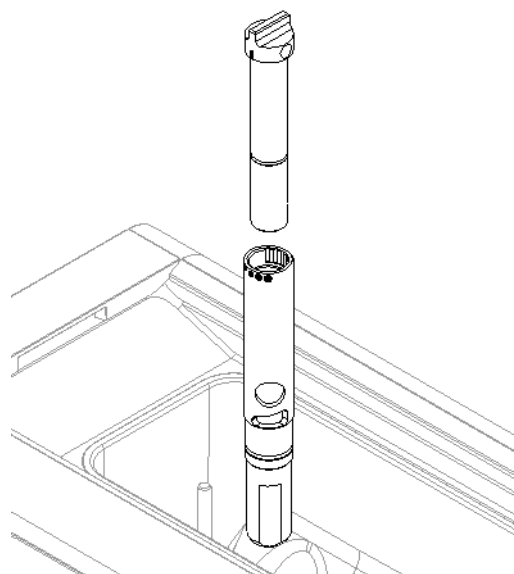

**figure 2**
**If the tap assembly has not been installed, the appliance cannot operate and the display shows the tap assembly open icon (see figure 2).**